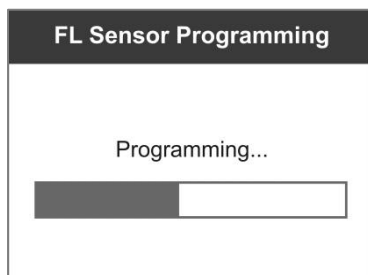

Figure 4-9 Sample Programming Screen
5. Press the **Y** button to write in the new created sensor ID to the MX-Sensor and the screen will show as below (*Figure 4-9*), or the **N** button to exit without change. If an error prompt displays